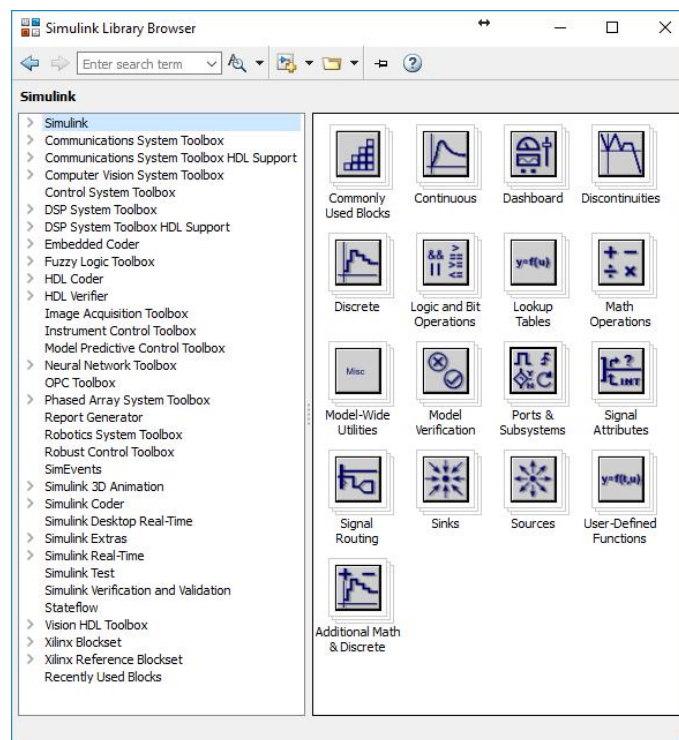

Fig. 6. Simulink Library Browser.
4. In the menu **View** choose **Library Browser** to choose some building blocks for this design. The Simulink Library Browser window is open as in Fig. 6.